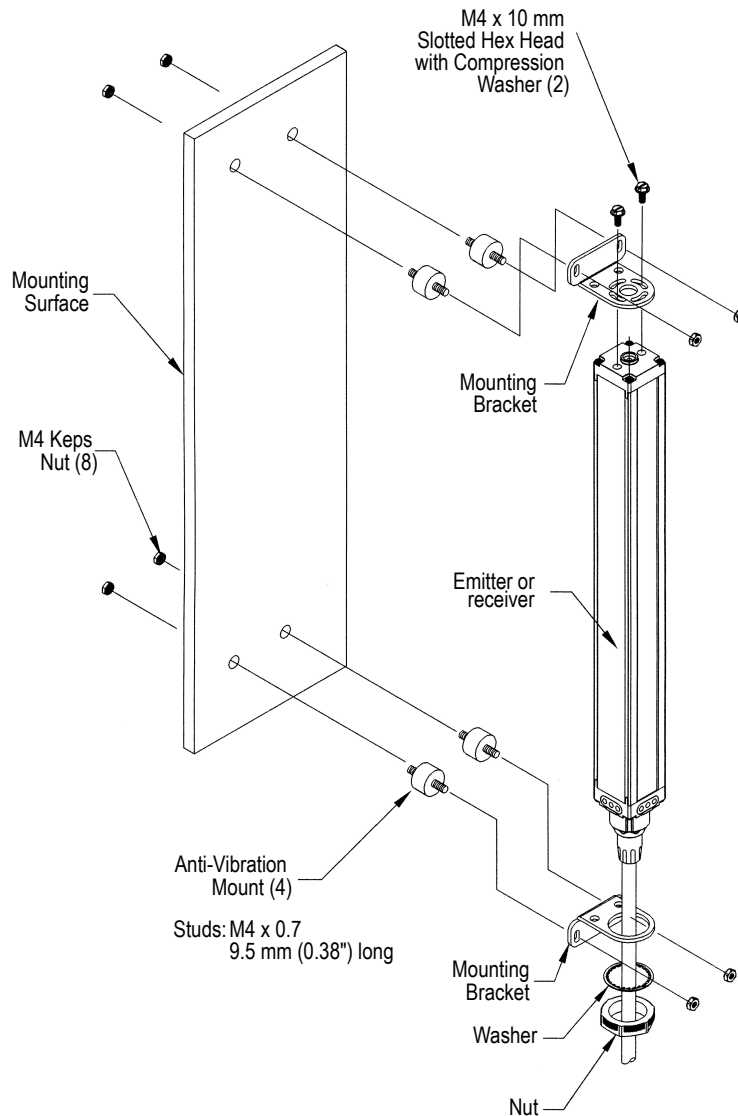

Figure 6. A-GAGE High-Resolution MINI-ARRAY emitter and receiver mounting hardware
1. Mount the emitter and receiver in their mounting brackets; see Figure 6 (p. 8).